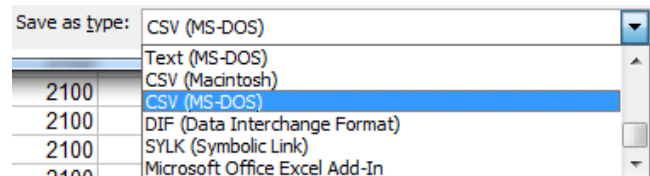

Figure 2
10. Once Complete, click "**Save As**" a "**.CSV**" file which is plain text with comma separated variables (*Figure 2*)